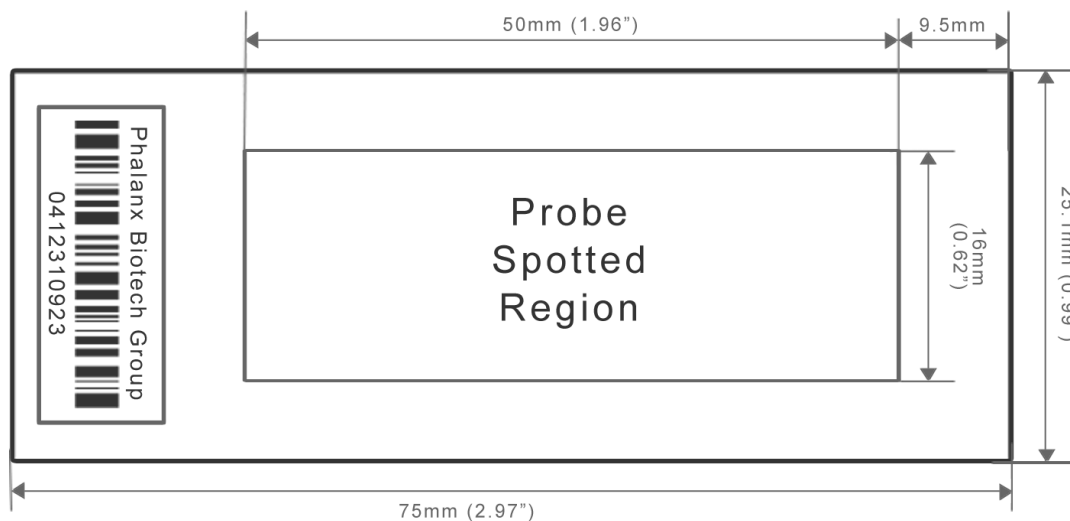

Figure 1: OneArray[®] Microarray Glass Slide with “Probe Printed Region Guide” Plastic Underlay.
- i. Remove the clear liner on the back of the hybridization chamber. Align the tab-end of the chamber to the edge of the microarray opposite to the barcode. It is easier to hold the long edges of the chamber in one hand and press down the tab with the other hand.(Figure 1)
- 8) Place the OneArray[®] slide, bar code up, atop the “Probe Printed Region Guide” (included, see Figure 1).